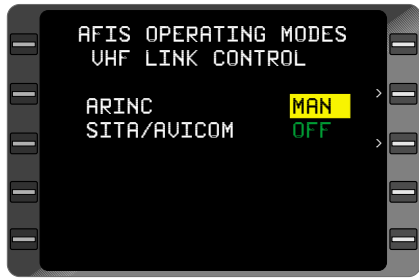

Figure 7-97
**NOTE:** *If **MAN** is selected, all other networks will indicate **OFF**. (Figure 7-97)*